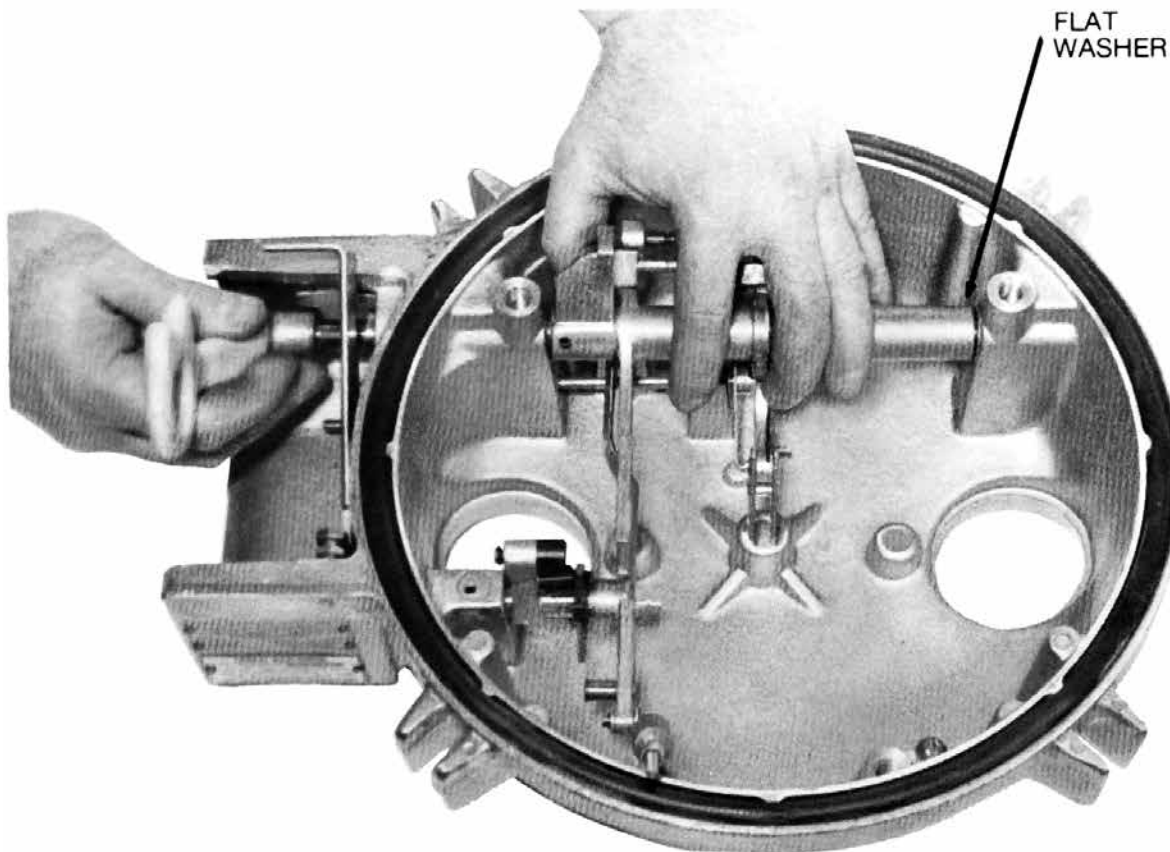

Figure 45. Reassembling head mechanism
3. Slide lockout spring lever, counter spring, lockout cam and link assembly, and lockout lever onto their shaft. Note that the hollow shaft end must point toward the sleet hood. Position this assembly. Be sure to include the flatwasher on the end of the shaft. See Figure 45.